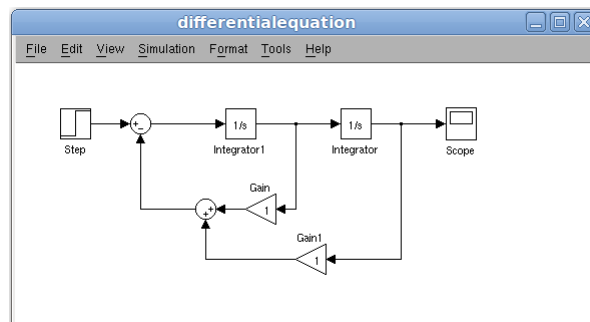

Figure 4: Complete Simulink model
6. Finally, add a **Step** from the **Sources** group and a **Scope** from the **Sinks** group and connect the blocks, see Figure 4. The **Step** will be our input signal and the **Scope** will enable us to watch the output.